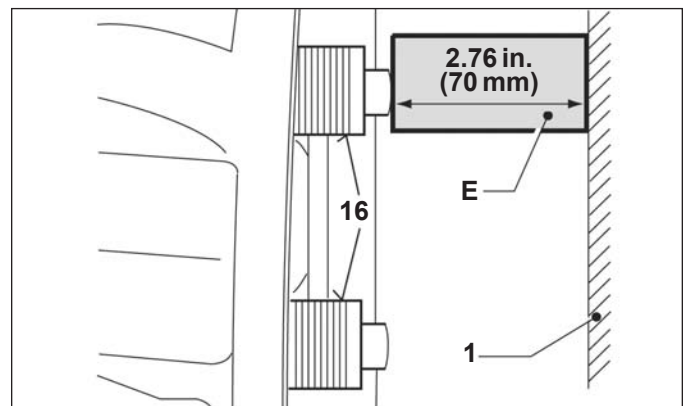

FIGURE 51 - USE OF A SPACER (OFF-VEHICLE INSPECTION)
If the technician is working with the caliper on the vehicle, the technician may place a new brake pad (12) into the outboard gap to help avoid the loss of thread engagement of the threaded tubes. See Figure 51.